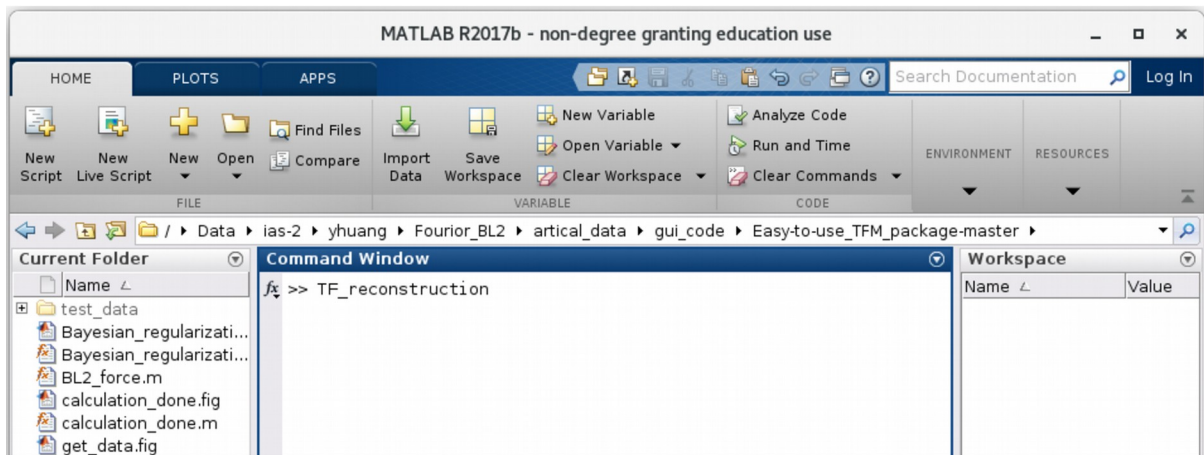
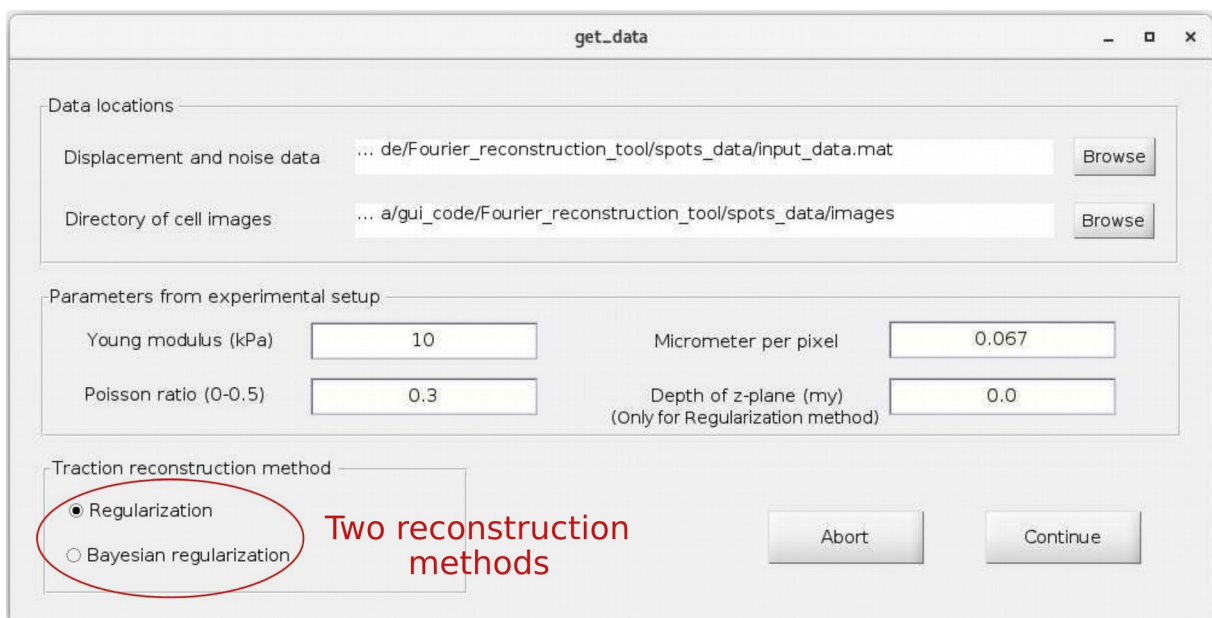
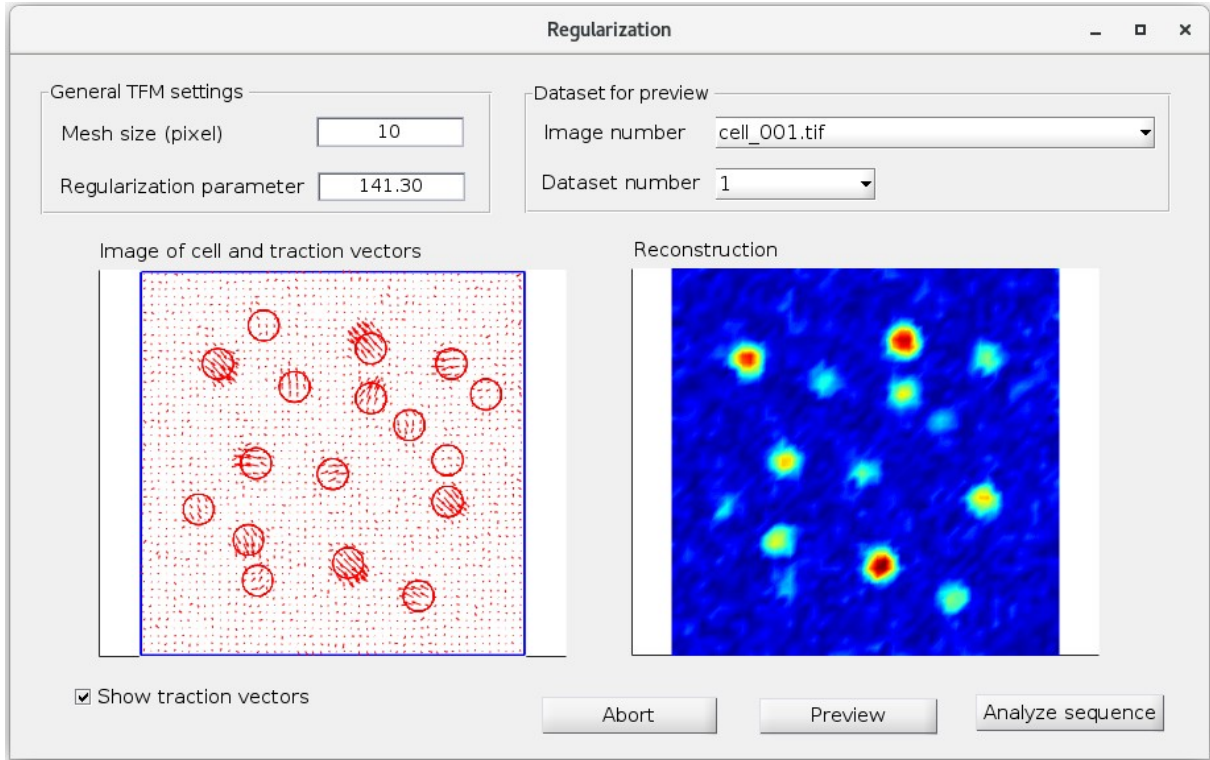
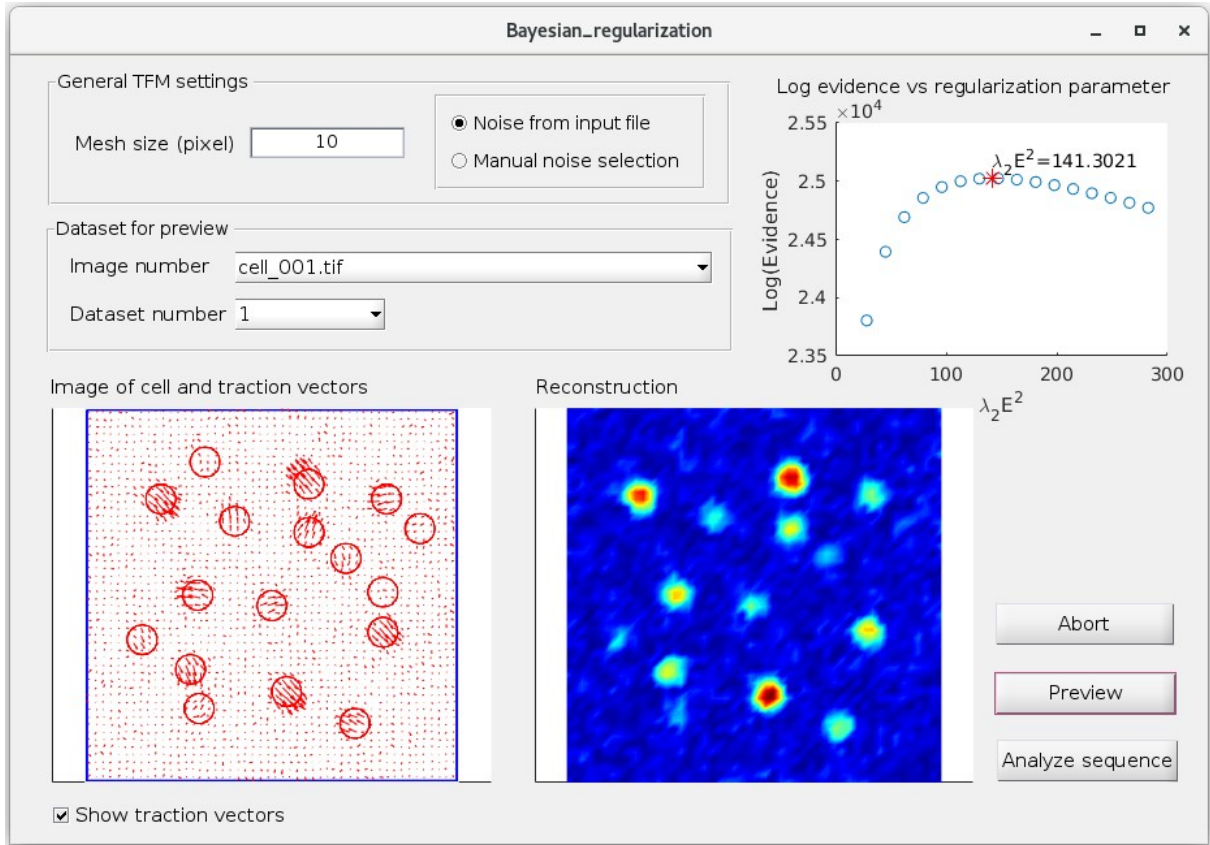

Figure 3. Starting the TFM software.
Figure 4. Setting the input data.
Figure 6. Calculating traction forces in the Regularization menu.
Figure 7. Calculating traction forces in the Bayesian regularization menu.
into the command line as shown in Figure 3. Next, a window titled 'get_data' will appear and allow you to enter general input data as shown in Figure 4.
If “Regularization” is selected with the option buttons shown in Figure 4, the next window that appears after clicking “Continue” allows to one to perform traction calculations with the Regularized Fourier transform traction cytometry. The window is shown in Figure 6. The following inputs are required:
If “Bayesian regularization” is selected in the ‘get_data’ window shown in Figure 4, the next window that appears after clicking “Continue” allows to one to perform traction calculations with Bayesian Fourier transform traction cytometry. With this method, the smoothing is done automatically through selection of a regularization parameter $\lambda_2 E^2$ with maximum evidence. The numerically calculated evidence function and the optimal regularization parameter can be displayed together with a preview of the traction forces, see Figure 7. For this method, an estimate of the noise in the displacement data is required. The technical details of the procedure are described in References [1-2].
As illustrated in Figure 7, the following inputs are required:
- If your input data does contain a sample of the displacement noise, you can directly choose the ‘Noise from the input file’ with the radio button as shown in Figure 7.